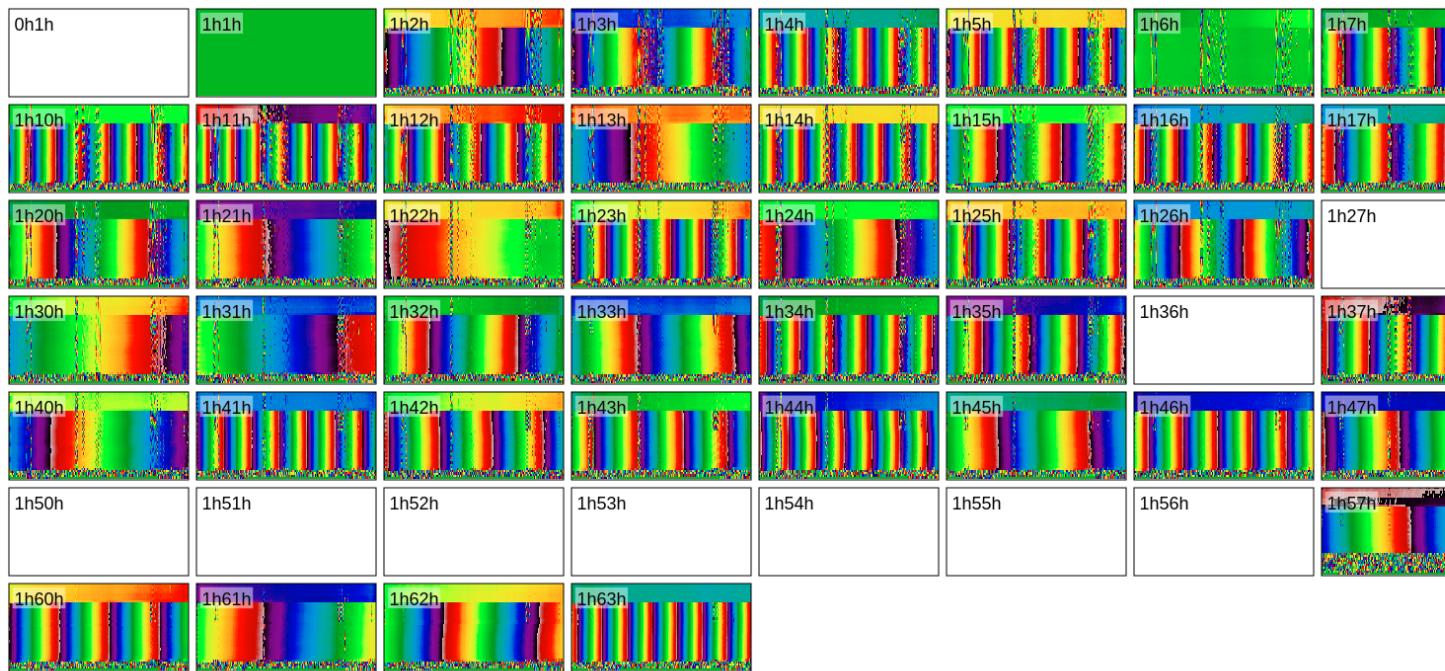

Figure 8.15: Acceptable waterfall plot
**Accepted waterfall plots** - in **Figure 8.15**, looking from the top of each y-axis baseline block (time) Green colour means there is no phase difference - this is good. Other colours are acceptable too. These are minor differences.